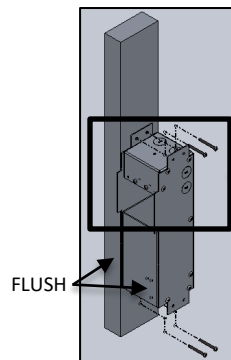

FIG. 8- J-BOX ASSEMBLY TO WALL
4. Attach RECESSED JUNCTION BOX to WALL STUD or CEILING JOIST at desired height and location before drywall is installed as shown below in FIG.8. Use appropriate anchor screws to secure to stud. (**Make sure the front of J-BOX is flush with the surface of the STUD and the large end of the BOX should face downward when mounted in the wall**).